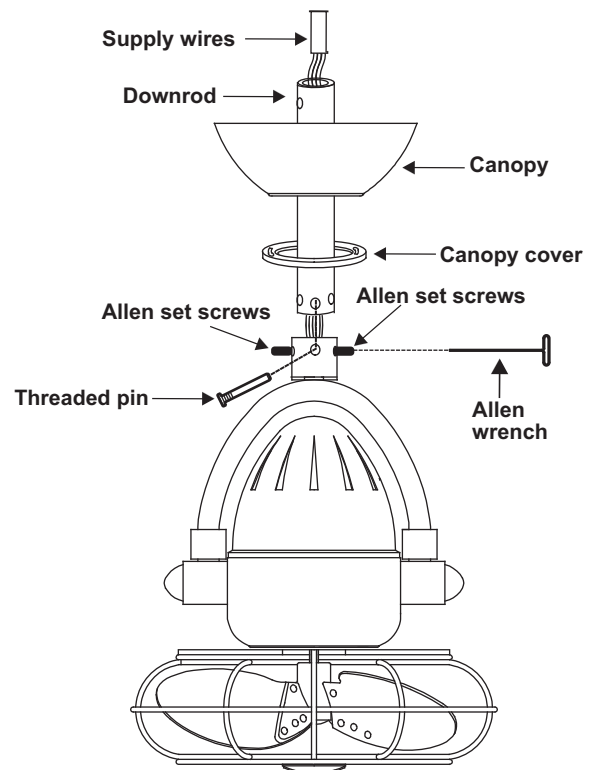

Figure 4
6. Loosen the two set screws and remove the threaded pin from the top coupling of the motor assembly. (Fig. 4)
7. Carefully feed the fan wires up through the down rod. Insert the down rod into the coupling then tighten the threaded pin and two allen set screws. (Fig. 4) Carefully reinstall hanger ball onto rod being sure that cross pin is in correct position, the set screw on hanger ball is tight and wires are not twisted.